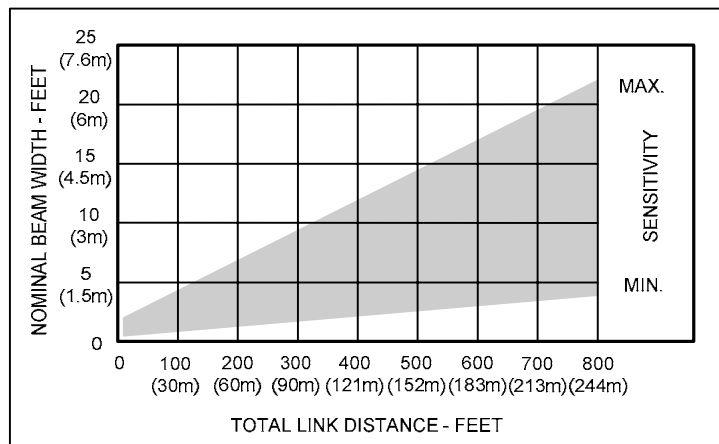
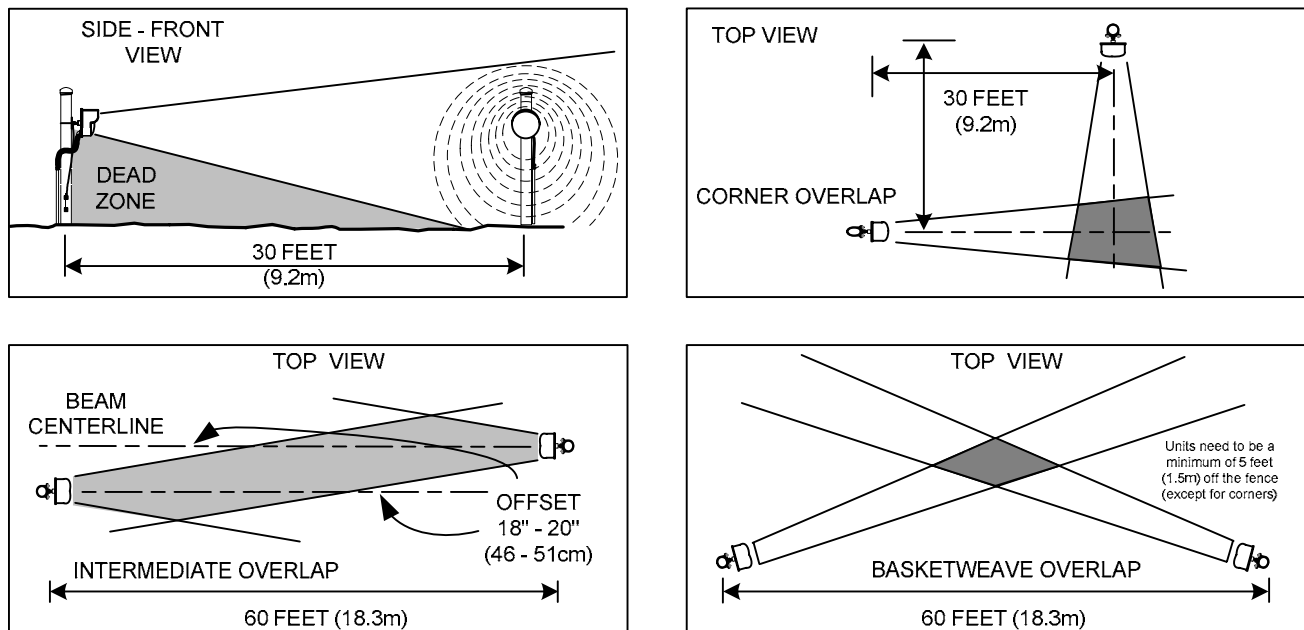
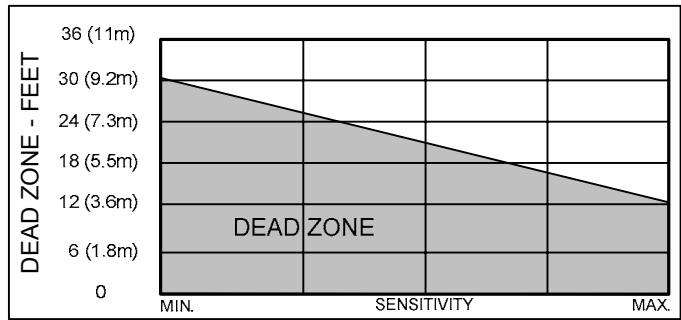

Figure 4 – Typical Maximum Horizontal Pattern
Figure 6 – Overlaps and Dead Zone
Figure 7 – Sensitivity vs Dead Zone
Figure 4 illustrates how pattern width varies with Transmitter-Receiver distance and gain setting. Actual patterns will vary somewhat with site topography and surface condition. Generally, lower mounting height or rougher surface will increase pattern width. For example, if the total link distance is 400 feet (122m) and the gain adjustment set to 10, the detection pattern width will be 6 feet (1.8m), half of the maximum width.
Protection pattern below centerline will tend to fill area between beam centerline and ground except for a “dead zone” immediately in front of and below Transmitter and Receiver. This zone is best protected by overlapping links at ends and corners as shown in Figures 6.
Figure 7 shows amount of overlap required to detect against hands and knees crawling intruders, as a function of “Sensitivity” setting. It is always recommended to keep the sensitivity setting at the lowest possible value to minimize nuisance alarms but maintaining a high probability of detection.
- 1.2 Beam Diameter: 2 feet (.6m) to 22 feet (6.7m) depending upon link distance and “Gain” setting per Figure 4.
The clear area required for a MicroWave 330-33461 installation depends upon the distance to be covered by the link. Protection patterns for various conditions are given in Figures 4. In each installation the clear area must be at least as large as the maximum protection pattern.
For maximum security it is necessary to overlap the ends of links so that the dead spot below and immediately in front of the adjoining link is protected. A 60-foot (18m) overlap is recommended at intermediate points, and a 30-foot (9.2m) overlap is recommended at corners. If site demands shorter overlap, increased sensitivity will reduce dead zone, per Figure 7, but will also widen beam, per Figure 4. The offset of overlapping links in line should be 18 inches (46cm) as shown in Figure 6. Additional protection may be added at critical points by installing SOUTHWEST MICROWAVE, INC. Model 380 or 385 Transceiver, Model 415 PIR, MS15/MS16 Dual Tech sensor or stacking MicroWave 330-33461 links or stacking with Model 300B microwave link.